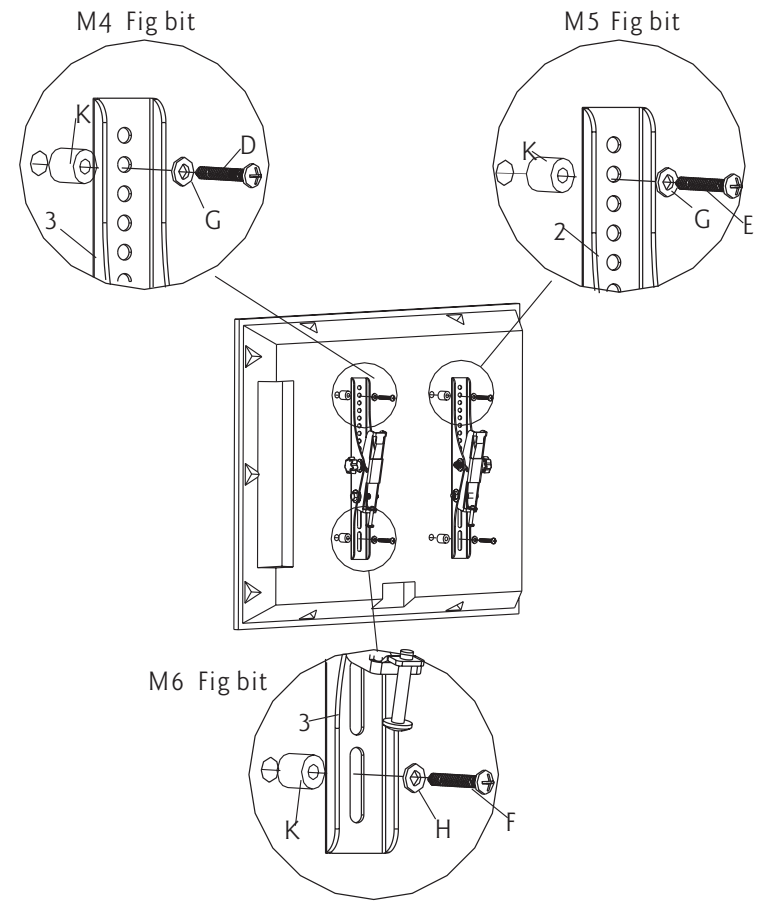

Fig 1b
2. Some displays have curved backs with recessed mounting lands (Fig. a). It will require the use of spacer. For this display, install a 9/16" spacer (K) between display and the bracket. As shown in Fig 1b.